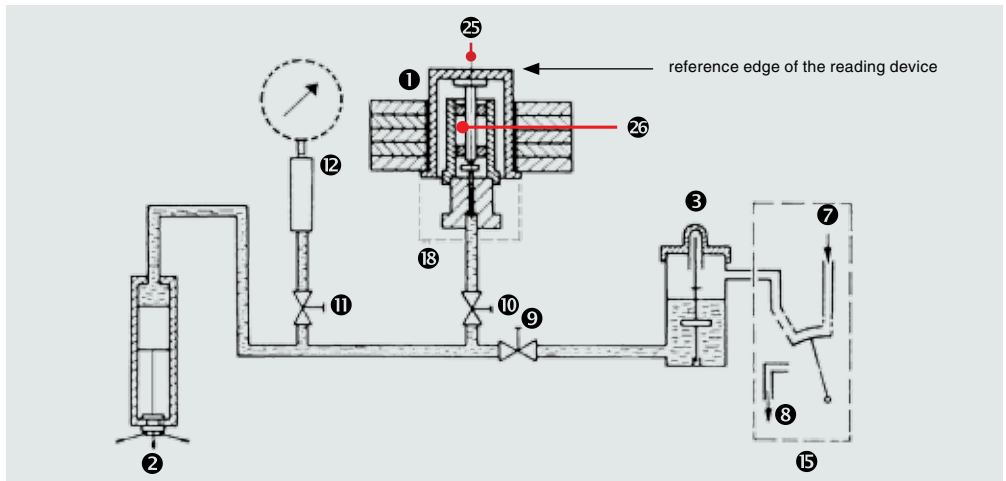

Fig. 3: schematic drawing
- Readjust the pressure by turning the spindle pump until the upper edge of the base plate 14 (⇒ Figure 3) matches the marking on the mirror of the reading device 5.